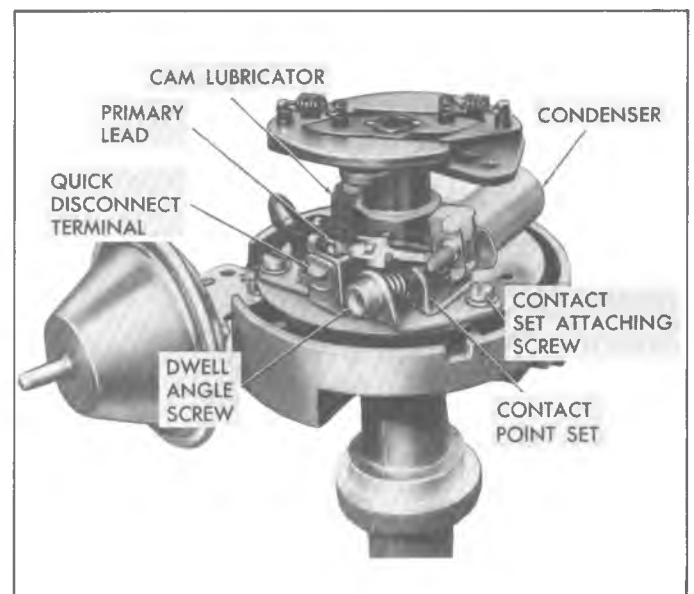

Fig. 14i—Distributor Lead Arrangements
4. Disconnect the primary lead from the nylon insulated terminal (fig. 14i).
**CAUTION:** Install the primary lead as shown in Figure 14i. Improper installation will cause lead interference between the cap, weight base and breaker advance plate.